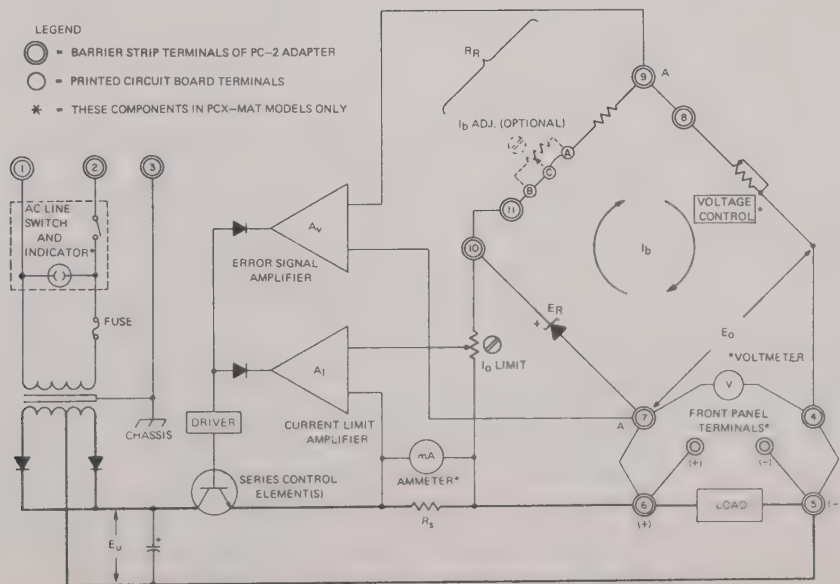

FIG. 4-1 PCX AND PCX-MAT POWER SUPPLY MODULE FEEDBACK REGULATOR SYSTEM (SIMPLIFIED SCHEMATIC)
4-2 This section contains the power supply circuit analysis. The operational theory, as far as it concerns remote programming, and the derivation of the transfer function were treated in Section III. The simplified diagram (FIG. 4-1) and the main schematic (FIG. 6-1) should be used to illustrate the contents of these paragraphs. References given in CAPITAL LETTERS refer to the nomenclature used in FIG. 4-1.
- e) The COMPARISON BRIDGE: This four-arm electrical bridge circuit is the regulating and controlling element in many KEPCO Power Supplies. In the PCX and PCX-MAT Model it consists of CR18 (E_R), R26 (R_R), the output voltage (E_O), and the voltage control resistance (R_{VC}). As shown in FIG. 4-1, a reference voltage (E_R) in series with the reference resistance (R_R) is continuously compared with the output voltage, (E_O) in series with the voltage control resistance, R_{VC} . At balance, a constant bridge current (I_B) is flowing through the bridge, keeping the error signal at bridge terminals (A) and (A') at approximately zero volts. Any deviation from the set output voltage will tend to change I_B in the sensing half of the bridge and thereby produce an error signal at the bridge terminals (A) and (A'). This error signal is then amplified and acts as a control signal for the series regulator transistor, changing the voltage drop across it in such a way as to compensate for the change in output voltage.